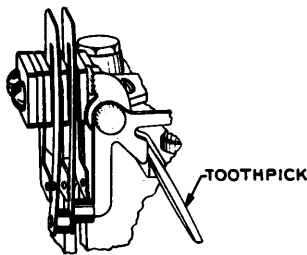

Fig. 3 — Method of Blocking Vertical Off-Normal Springs in Their Unoperated Position
3.02 When it is necessary to open the circuit to the release magnet, block the vertical off-normal springs in their unoperated position by means of a toothpick or KS-6320 orange stick as shown in Fig. 3. On 198-type switches, and when necessary on 197-type switches, insulate the contacts of the rotary off-normal springs that close the circuit to the release magnet. Where the adjustments require that the switch cut in on any level, exercise care not to interfere with the normal operation of circuits associated with the bank contacts.